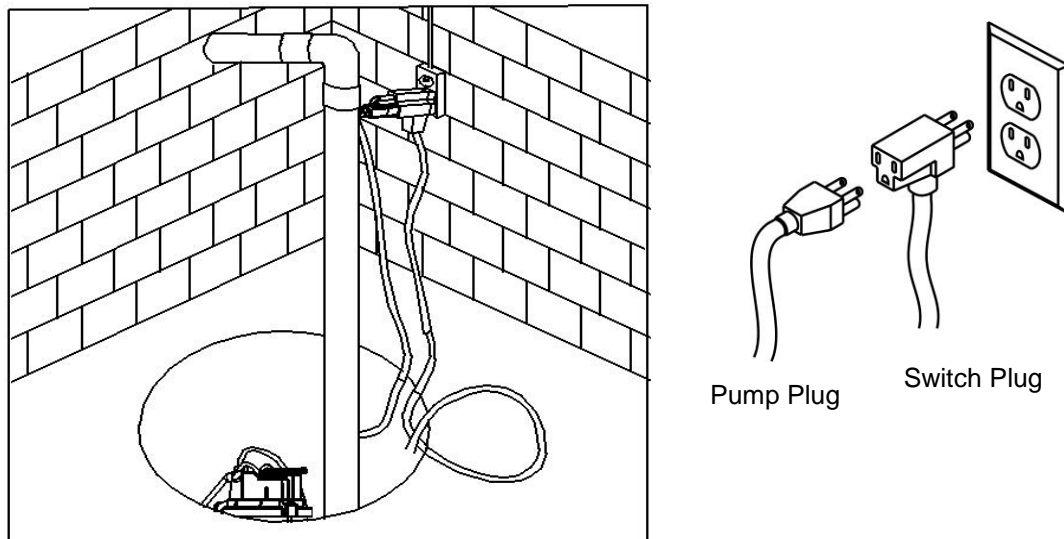

Figure 4
- 5B. The pump is supplied with a 3-wire cord set with grounding- type plug. Insert the switch plug directly into the outlet then insert the pump plug into the back of the switch plug. (See Figure 4.)